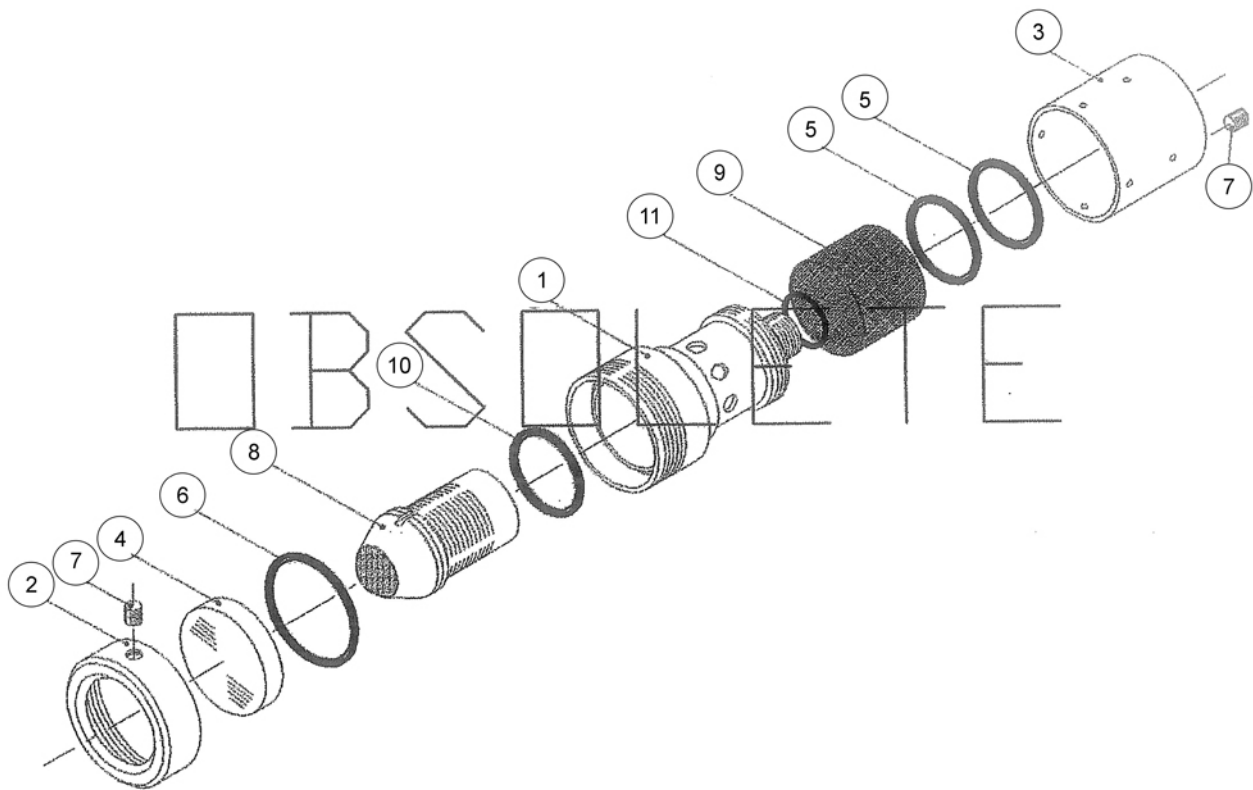

Fig 4.3 Monthly Maintenance Over Pressure Indicator Type 1
2. For the overpressure indicator Type 1, which is shown in Fig 4.3, proceed as follows:
- a. Remove the grub screws (Fig 4.3, Item 7) using a suitable Allen key, and top cap (Fig 4.3, Item 2) and bottom cap (Fig 4.3, Item 3) using a strap wrench.